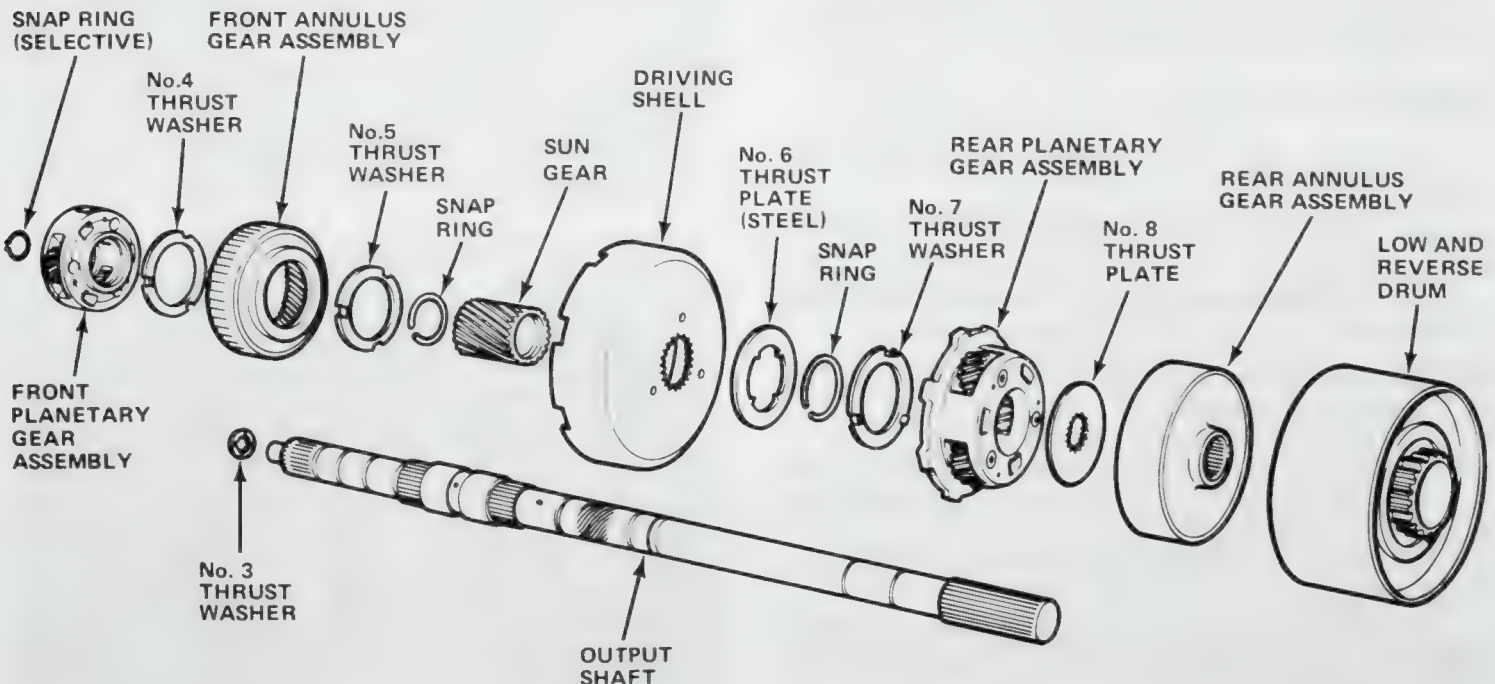

Fig. 2C-90 Planetary Gear Assembly—Model 727
(1) Remove No. 3 thrust washer from forward end of output shaft.
(2) Remove front planetary assembly from output shaft (fig. 2C-90).
(3) Remove front annulus gear from planetary assembly.
(4) Remove No. 4 thrust washer from rear side of planetary gears.
(5) Remove sun gear, driving shell and rear planetary assembly from output shaft.
(6) Separate sun gear and driving shell from rear planetary assembly.